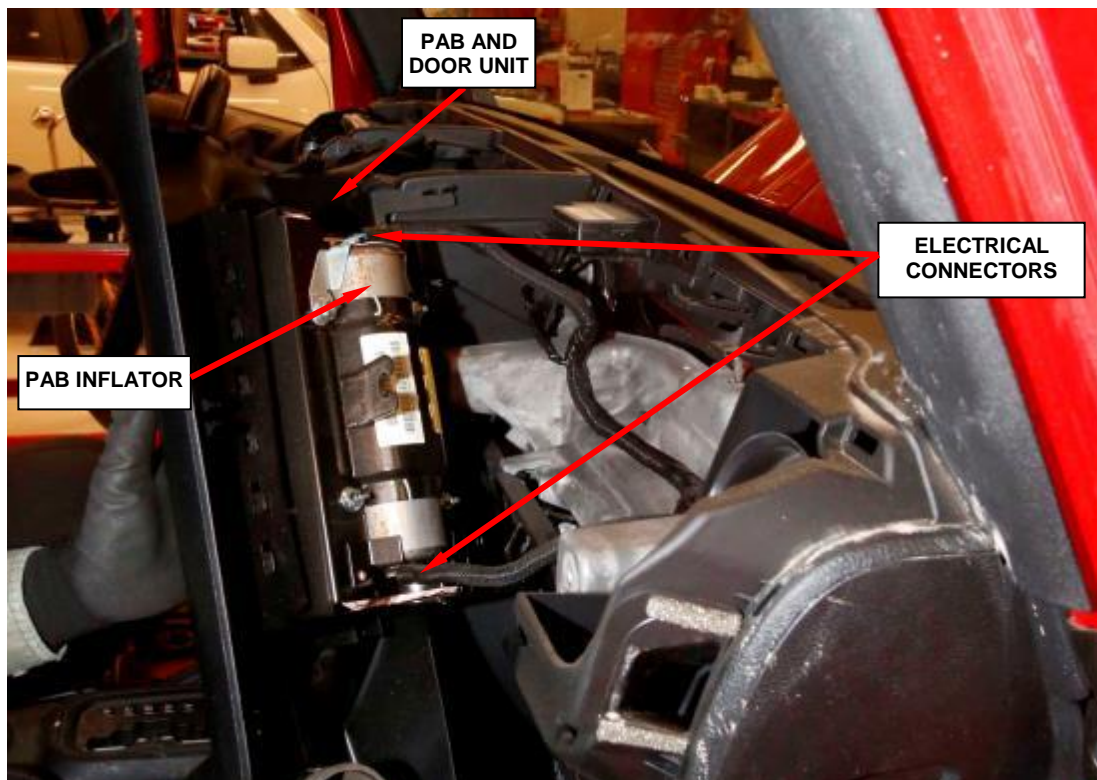

Figure 173 – Electrical Connectors
28. Grasp the lower edge of the PAB door and pull the door and PAB unit rearward far enough to access the two instrument panel wire harness connections to the PAB inflators at each side of the PAB housing (Figure 173).
29. Disconnect the two panel wire electrical connectors from the PAB inflators. Firmly grasp and pull the lock straight out from the connector insulator, then pull the insulators straight out from the inflator to disconnect them from the connector receptacles (Figure 173).